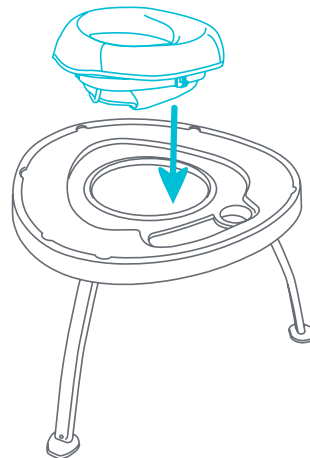

Fig. 1b
- If needed, align the seat to the center opening and press it down firmly. The seat must completely click into the tabletop (Fig. 1b).